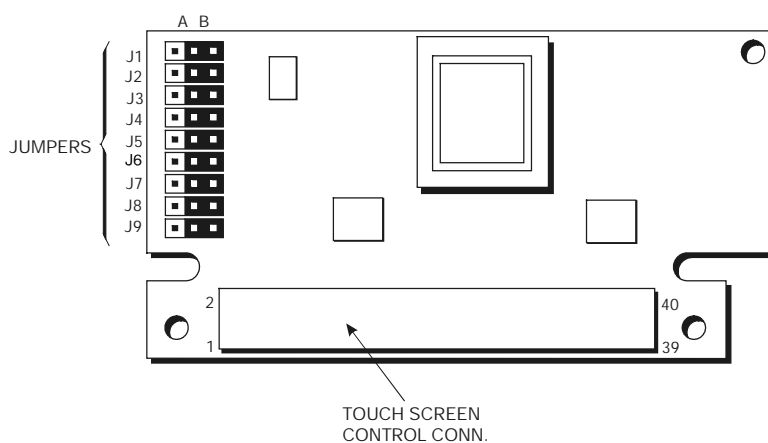

Figure 3-17B. Touchscreen Controller Card
3. Remove the touchscreen controller card (Figure 3-17B).